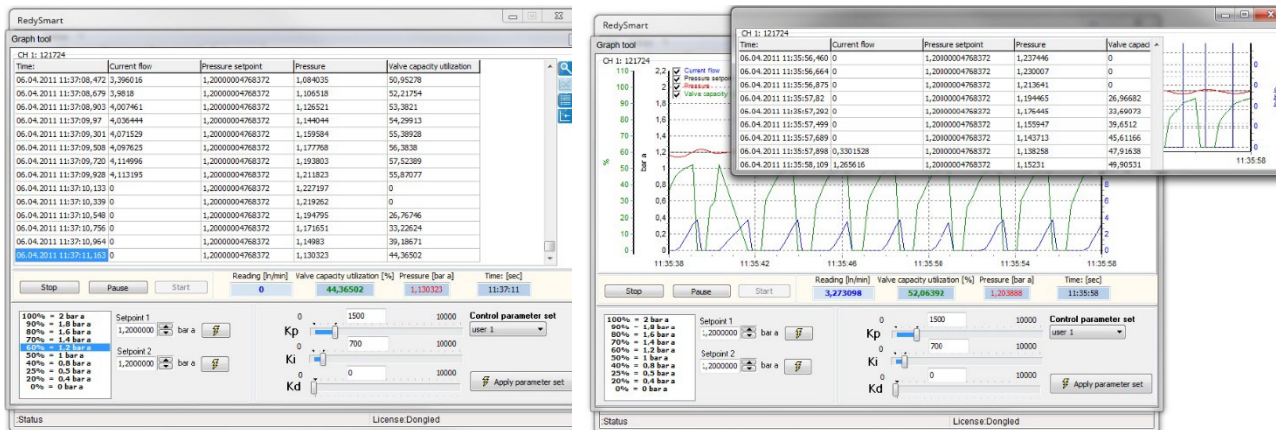

Figure 32: Representation of the measured values in tabular form (left) and representation of the data in separate windows (right).
- E. Settings:** You can set the most important parameters for pressure regulation here. Clicking the [Settings>>] button to go to a new window (See Figure 32, [Pressure control setting]).